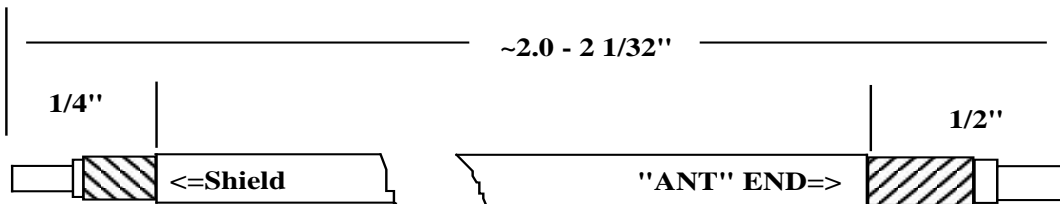

Figure 6 Cable shown broken for clarity
Prepare the common output coaxial cable as follows: (See Figure 6)
2. Prepare two pieces of RG/188 coax as shown in Figure 6 of the DEM assembly documents.